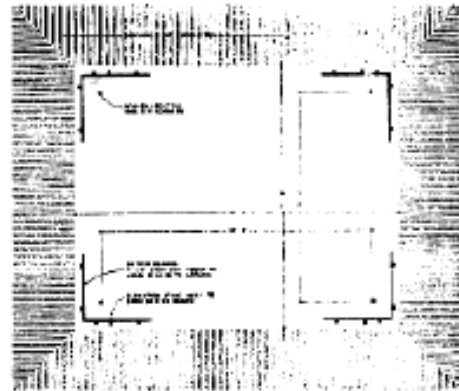
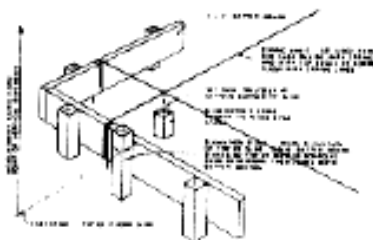

Figure 23. Plan layout for placing batter boards
Figure 24. Construction of batter boards
The elevation of the floor slab (depth below ground) is established in conjugation with placement to the edge forms. So that the edge forms for the slab can be placed and their height adjusted without working on top of the corner stakes (which could result in their being moved indifferently), batter boards are placed at the corners as shown in Figure 23. These batter boards provide a way to set the elevation of the top surface of the floor slab accurately and to align horizontally the edge form boards for the slab so that essential layout measurements are not disturbed in the process.
Step 1. Place a pair of 1" X 4" boards about 4 ft. long at each corner of the shelter. Position the boards at right angles to each other about 1 ft. beyond the corner stakes, as shown in Figure 23. Nail these boards to supporting stakes, as shown in Figure 24. The batter boards need not be set exactly at right angles, since they are only temporary and their purpose does not require such accuracy. The height of the top edges of the batter boards above the bottom of the excavated area should be set approximately at the height for the top surface of the floor slab. Precision for this work is not necessary at this time, for the heights will be adjusted in the next step.
Step 2. To set the heights of the batter boards, first place a stake just outside each batter board near the corners, as indicated in Figure 24. Drive each stake to a level slightly higher than the elevation of the top of the slab. Using a transit level or water filled hose, mark on the stake at each corner the correct height of the surface of the floor slab relative to the point of vertical reference. Adjust each batter board up or down so that its top edge is even with the mark on the stake. Then use a carpenter's level to set each segment of the batter boards to the same height and level along its length.
Step 4. To set the lines of string that will serve as guides for placing the edge forms of the floor slab, stretch string along each pair of corner stakes (the stakes set previously which locate the corners of the floor slab), extend the string at each end across the top edges of the batter boards as shown in Figure 24. The string crossing the top edges of the batter board, aligned with the pairs of slab corner stakes and pulled taut, this will set the line and the height of the floor slab edges. The slab corner stakes now may be removed to clear the way for forming the floor slab.